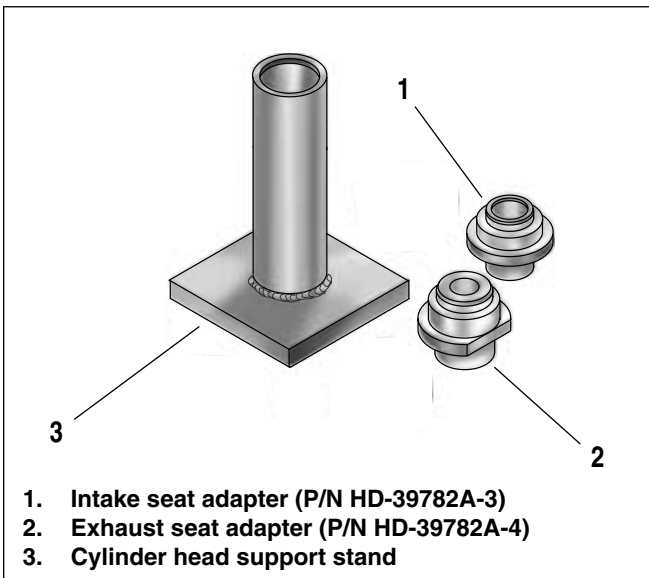
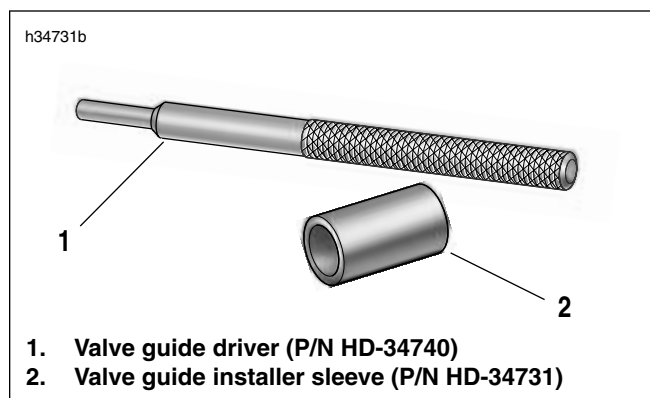

Figure 3-12. Cylinder Head Support Stand
Figure 3-15. Valve Guide Driver and Installer Sleeve
1. See Figure 3-12. Obtain the CYLINDER HEAD SUPPORT STAND (HD-39782A) and proceed as follows:
3. See Figure 3-12. See Figure 3-15. Obtain the CYLINDER HEAD SUPPORT STAND (HD-39782A), VALVE GUIDE DRIVER (HD-34740) and VALVE GUIDE INSTALLER SLEEVE (HD-34731). Proceed as follows: